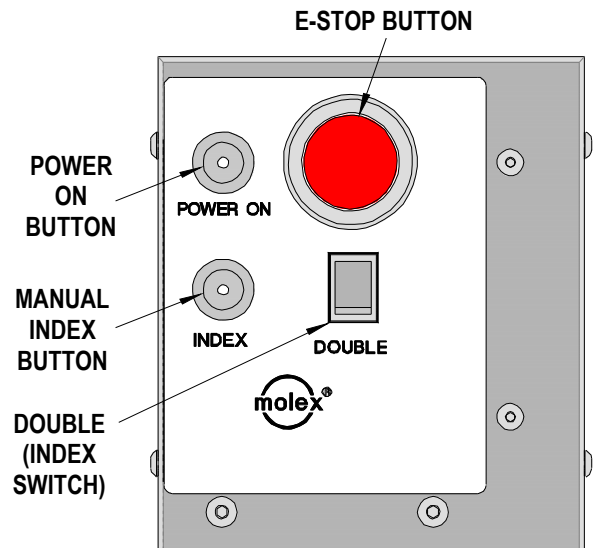

Figure 3-1
3.1. Control Panel Operation (See Figure 3-1)